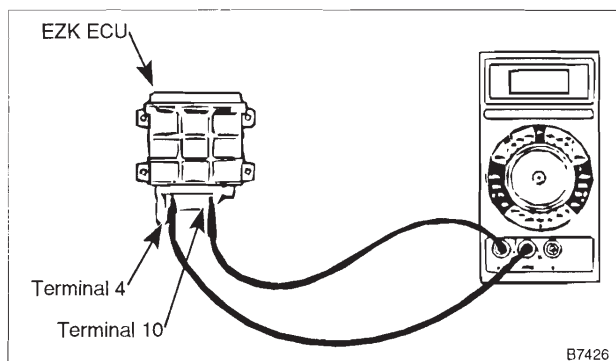

Fig. 18. Voltmeter being used to check for voltage supply to Hall sensor from EZK control unit.
10. **Check for voltage to the Hall sensor.** Working from the rear of the EZK control unit connector, connect a voltmeter between terminal 4 (+) and 10 (–). See Fig. 18. With the ignition on, there should be battery voltage. If no faults are found, the Hall sensor is faulty and should be replaced. If voltage is not present, the EZK control unit is faulty.